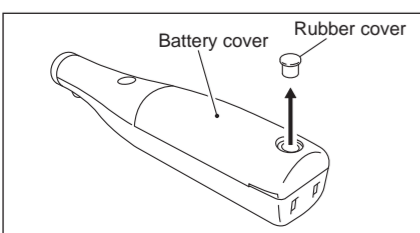

Fig. 14
- Remove the rubber cover from the battery cover with a thin flatblade screwdriver. (Fig. 14)